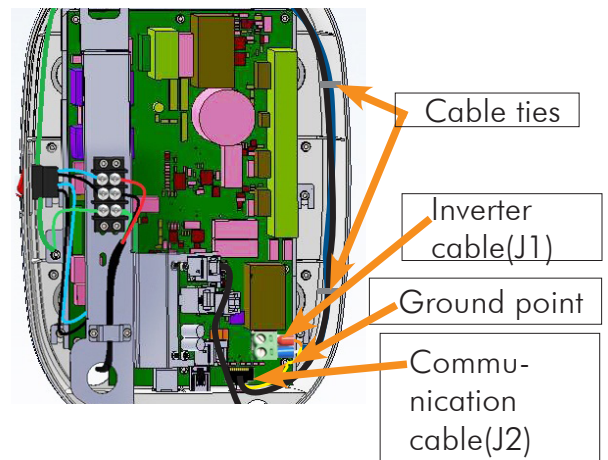

Figure 61
- Using a 2.5mm allen key connect the GND wires(Ring terminals) of both the Communication & INV power cables in the Base Unit to the Power Board fixing screw as shown in Figure 61 .
- Connect the INV power cable to J1 connector(Non-polarised) using a Jewel screwdriver (holding the connector) as shown in Figure 61 .
- Connect the communication cable connector to J2 connector of the power board as shown in the Figure 61 .
- Route the cables as shown in Figure 61 along the right inner side the Bas e Unit. Use new Cable ties to fix the cables on the existing cable mounts & cut the extra length of cable ties using a cable tie cutter.